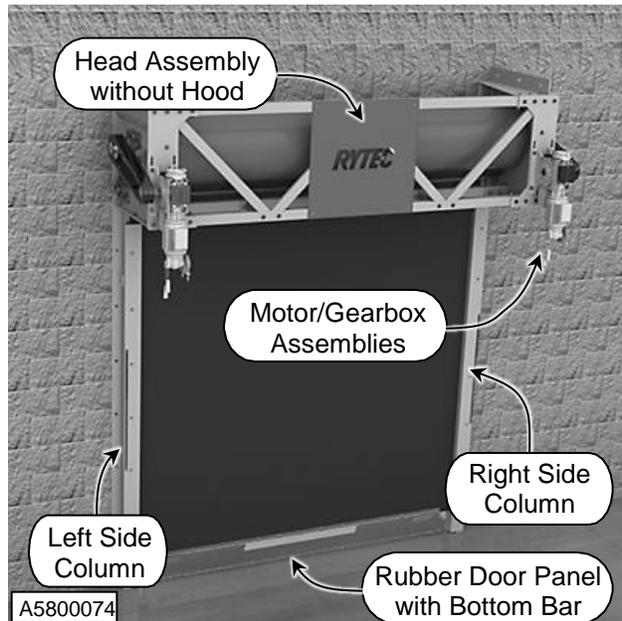

Figure 41
3. To ensure the correct parts are shipped, please include the serial number of your door with the order. The serial number is located on the door in several locations per the “DOOR SERIAL NUMBERS” section (See page 1). All these serial numbers must match. (See Figure 41)